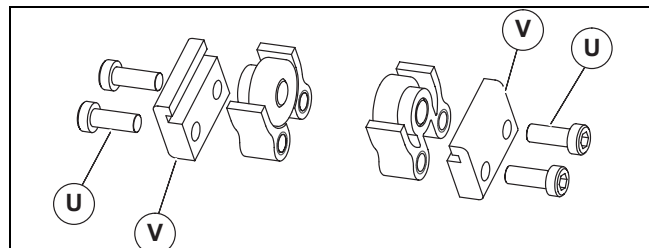

Figure 9
1. Locate return roller assemblies. Exploded views are shown in Figure 9.
2. Remove screws (Figure 9, item U) and clips (V) from roller assembly.